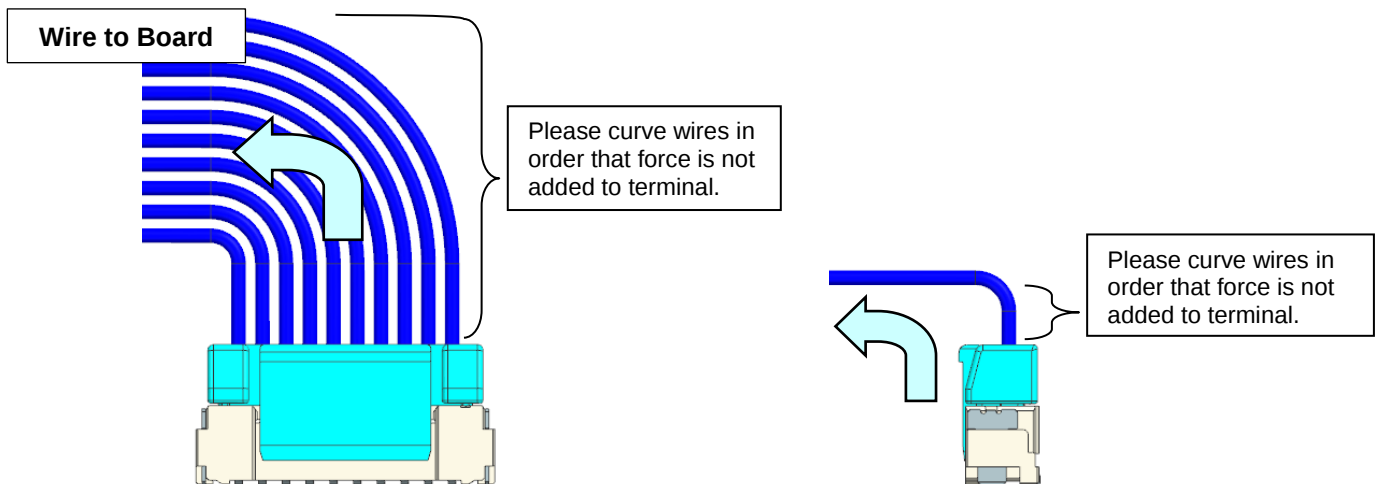

Fig.10-3-1 Condition wires are curved
- ※If you plan on pulling around wires inside machine, please take measures to prevent force from applying to connectors directly, such as allowing wires to have enough flexibility. **(Fig.10-3-1/10-3-4)**